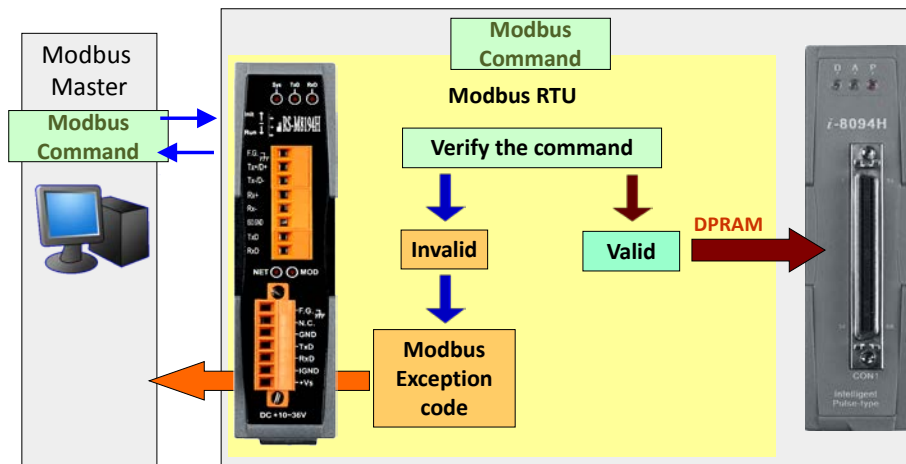

Figure 1: RS-M8194H module in slot 0 of the motion device
• The RS-M8194H module (Figure 1) in slot 0 is the unit which is mainly responsible for the Modbus communication between the Master and Slave. The main task of the module is to verify and filter every command arriving at its serial port according to its current state and consequently decide whether to transfer the command to the i-8094H or, if the command is not supported by the respective state, ignore the command and respond to the Master with a Modbus exception code.